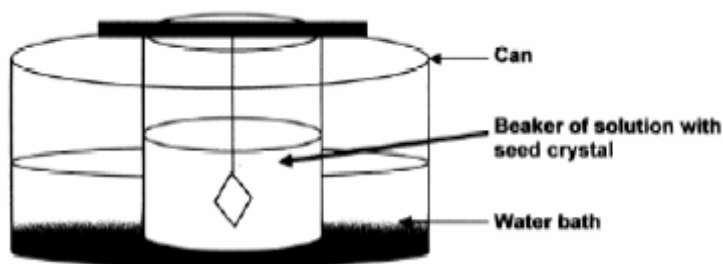

Figure 2: Schematic of seed crystal assembly and water bath
9. Put your beaker with the solution and seed crystal into your water bath as shown in Figure 2 below: